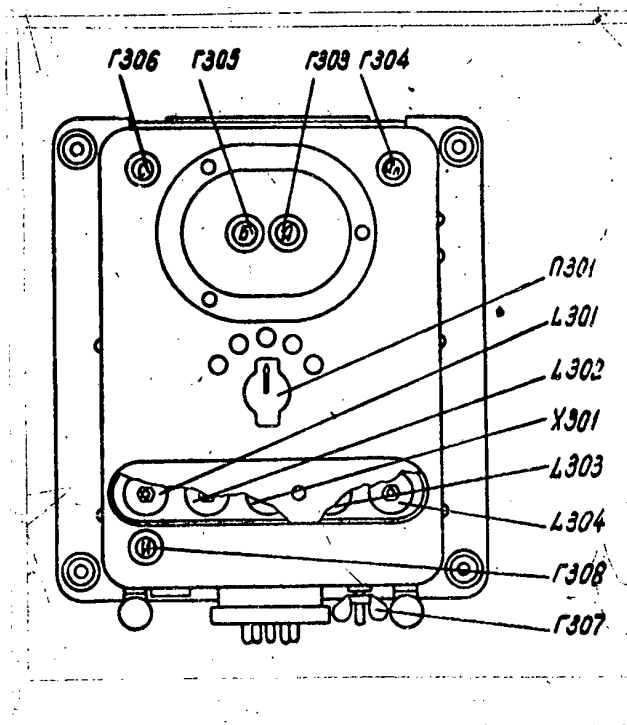

Figure 7: Location of the crystal and of the crystal calibrator tuned circuits.
1. The crystal, by replacing it /the location of the crystal calibrator circuits is shown in Fig. 7.